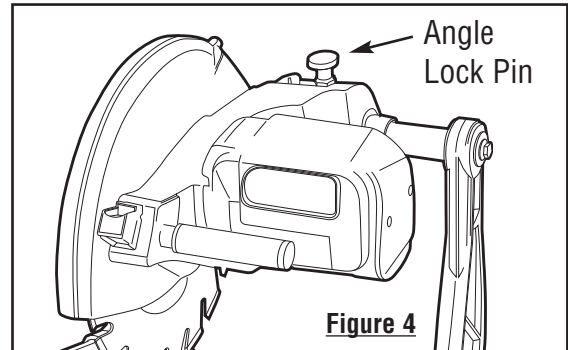

Figure 4
2. To adjust the saw's fixed cutting position, pull up on the Angle Lock Pin, *Figure 4*, move the head to the new position, release the Angle Lock Pin, and rotate the cutting head up/down until the Angle Lock Pin locks into position (lowest position for cutting thru bricks). The middle position is for cutting block and the upper position for blade replacement.